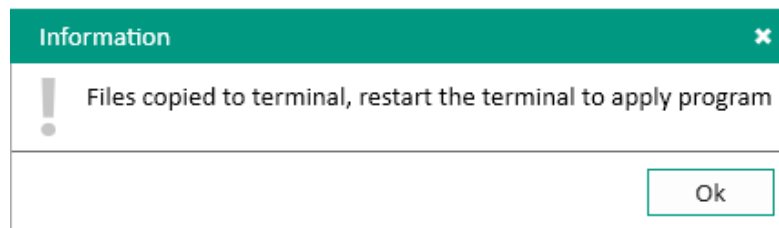

Figure 38 – Information window
3.2.3.4 When copying is completed, an information window is displayed (figure 38).